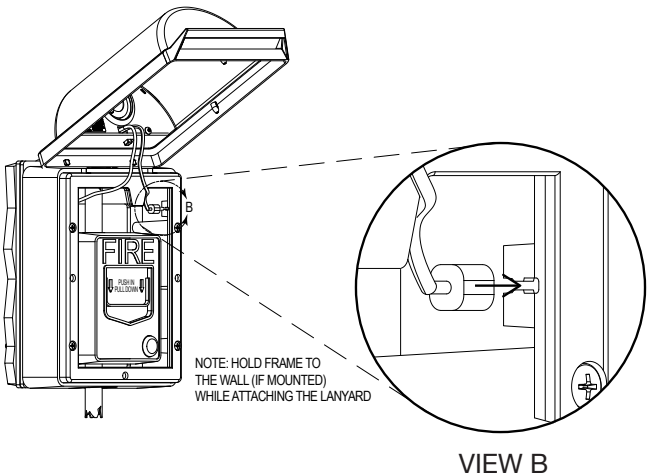

Fig. 4
4. For models using the 2" spacer to install the cover, insert the cable end stop into the pocket on the inside of the frame. Hold the frame against the wall and pull the cable to lock into the slot. Repeat for 2nd cable (FIG. 4).